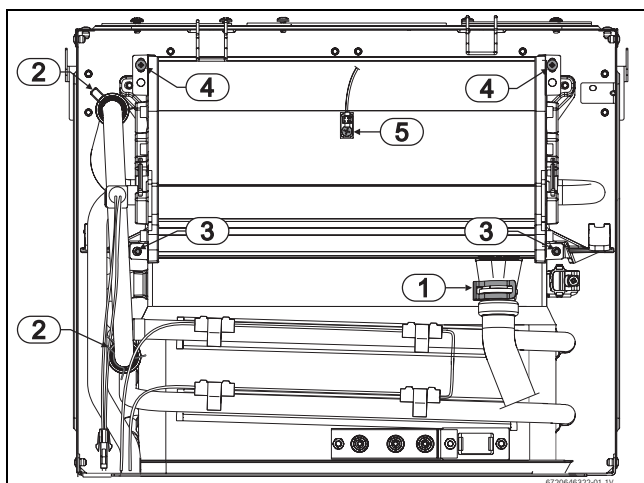

Fig. 69 Removing the condensing heat exchanger
- ▶ Disconnect the condensate tube (→ Fig. 69, pos.1) and all inlet, outlet pipes (→ Fig. 69, pos.2) from the condensing heat exchanger unit.
- ▶ Remove two hex screws (→ Fig. 69, pos. 3) and two Philips screws (→ Fig. 69, pos. 4).